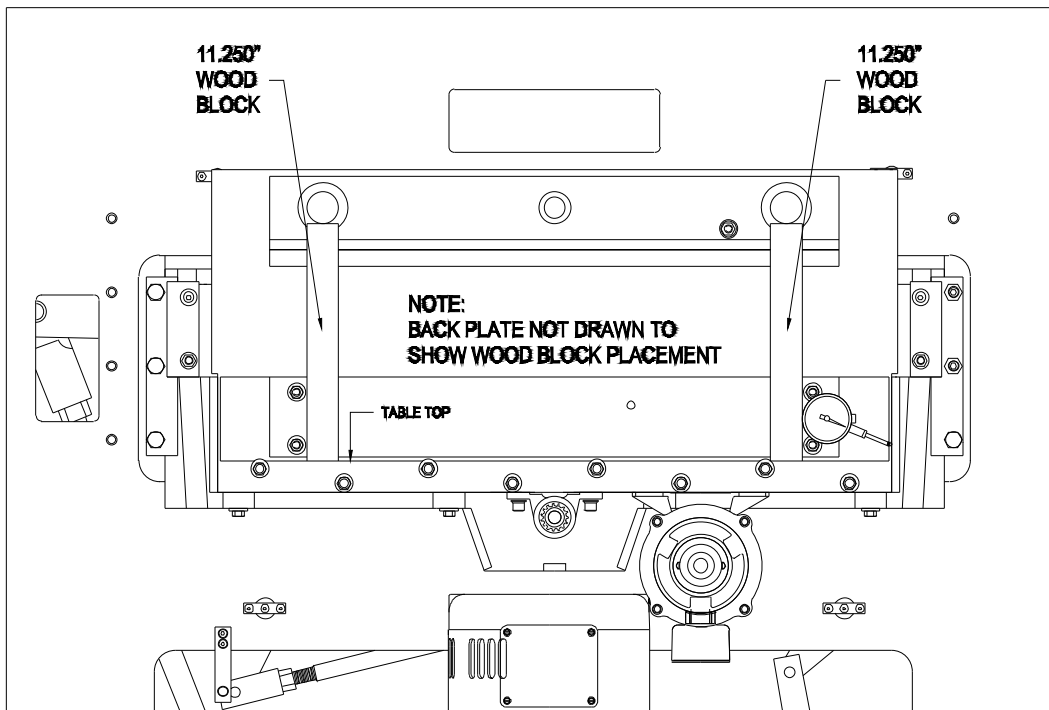

Fig. 38
6. Install two (2) wood blocks 11.250" high under the left and right guide rods at the rear of table against the rear plate. Fig. 38.